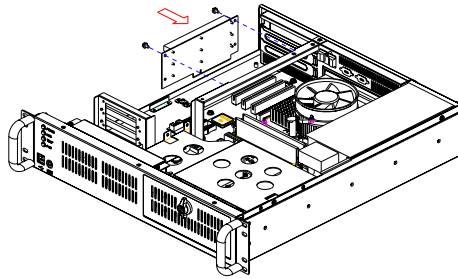

Figure 2.5: Installing the riser card
1. Insert the riser card on the motherboard. Then, attach it onto the beam on the chassis by fastening the two screws. (see *Figure 2.5*)